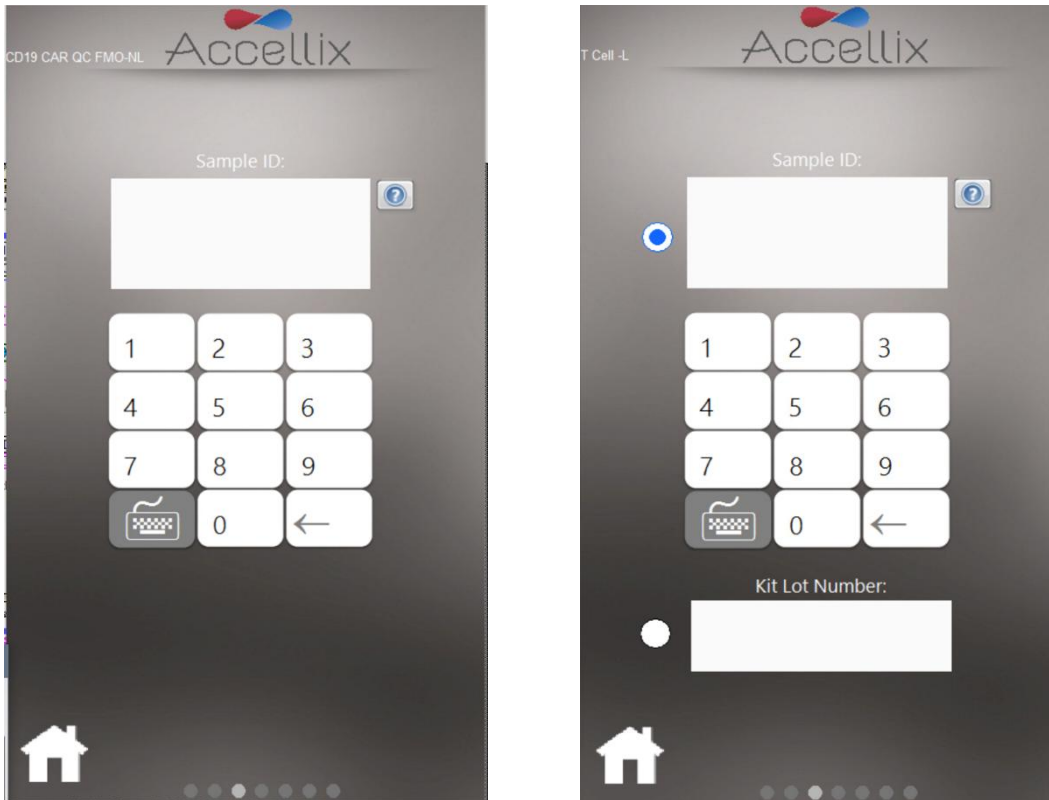

Figure 43: Enter Sample ID screen (with and without Kit Lot Number)
6. On the **Enter Sample ID screen** (Figure 43), enter the Sample ID using the on-screen keypad, an external keyboard or barcode scanner. The Sample ID will then be displayed on all subsequent screens of the assay run.
**Note:** In an optional configuration of the software, the user is also required to enter a Kit Lot Number. (See the image on the right-hand side of Figure 43).